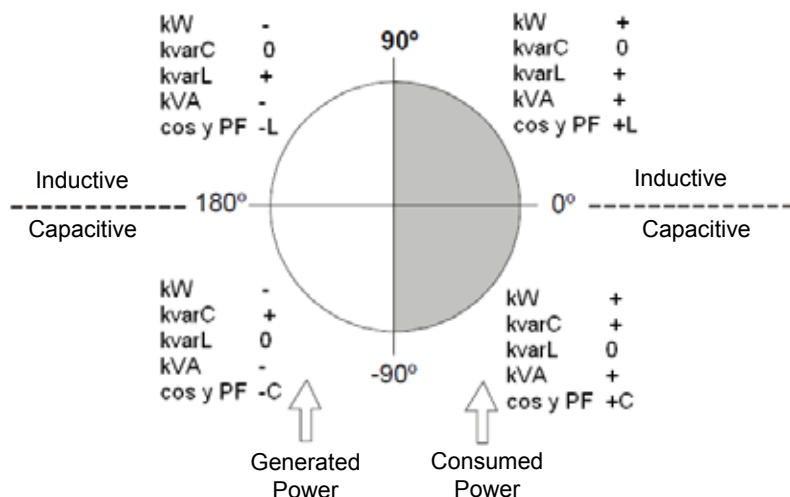

Figure 17: Diagram of the four measurement and compensation quadrants.
(1) The **cos $\varphi$**  and **Power factor** parameters are accompanied by the **kW sign** and **kva sign** parameters, which are used to determine the quadrant in which each phase is being measured. See **Figure 17**.